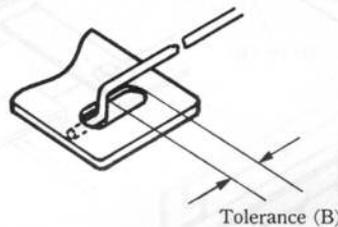

Fig. 17
3. Adjust the rod length by bending the position (A) so that the clearance  $l$  (from center position to minimum position) and  $l'$  (from center position to maximum position) are same level. (Fig. 17)